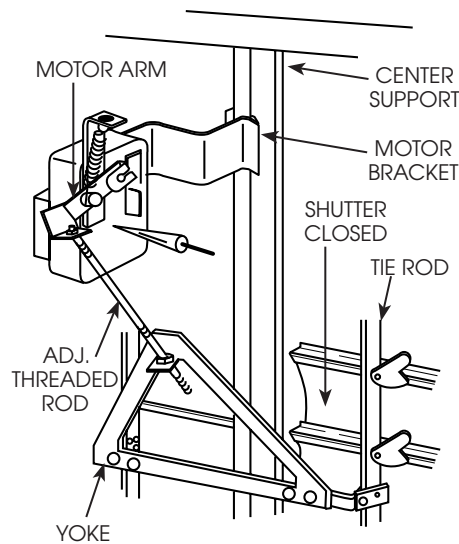

Figure 5
1. Install yoke as shown in Figure 5, keeping adjustable threaded rod in center of shutter.
2. Install assembled motor and bracket to shutter as shown in Figure 5, making sure bracket is aligned on center support.